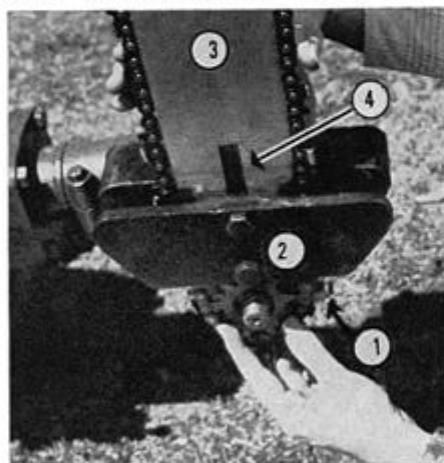

Figure 16
2. Loosen the Bracket Clamp bolt, 1 in Figure 16, until the Bracket, 2 in Figure 16, will slip onto the Gear Housing (it may be necessary to wedge the Bracket to make it fit). Line the lower edge of the Bracket even with the lower edge of the Housing—not with the fixed Collar. Tighten the Bracket Clamp Bolt to lock the Bracket in place.
3. Loosen the Swivel Adjustment Bolt (on the Drive Assembly) and rotate the Bracket until the Guide Bar, 3 in Figure 16, points straight up. Then tighten the Swivel Adjustment Bolt.
Turn the Chain Adjusting Screw, approximate location on other side of Guide shown by 4 in Figure 16, clockwise to increase Chain tension. When the Chain is under proper tension, it will be slightly loose on the Guide Bar, but not loose enough to permit it to come out of its slot when grasped firmly and pulled away strongly from the Guide Bar. Excessive tension will cause the Chain to "burn" the Guide Bar.